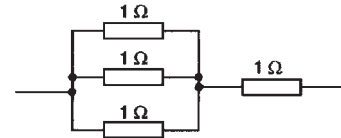

Figure 7.18
- (c) **Three in parallel, in series with one** (see Fig. 7.18), since for the three in parallel,